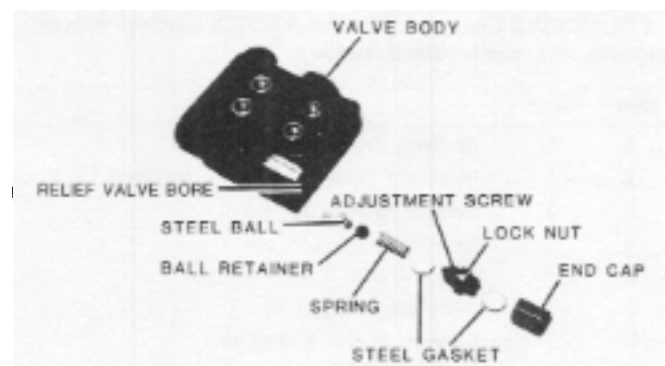

FIG. 18. Pressure Relief Valve
NOTE: Relief valve should be removed for inspection and cleaning (Fig. 18). Overhaul kit contains a new relief valve spring, ball retainer and ball. Use these parts only if necessary due to damage or wear. Record number of turns of adjustment screw during removal.
6. Remove relief valve cap and steel gasket from valve (Fig. 18).
2. Position valve body so that relief valve bore is vertical (Fig. 18). Drop ball into bore so that ball rests on relief seat. Apply grease to ball retainer and spring and assemble. Enough grease should be used so spring and ball retainer stick together. Insert spring and ball retainer assembly into bore against ball. Slide metal gasket on adjustment screw and install screw into valve bore number of turns recorded during disassembly. Hold adjustment screw and tighten jam nut to 45-52 ft. lbs. torque. Insert metal gasket over adjustment screw and screw cap onto adjustment screw.